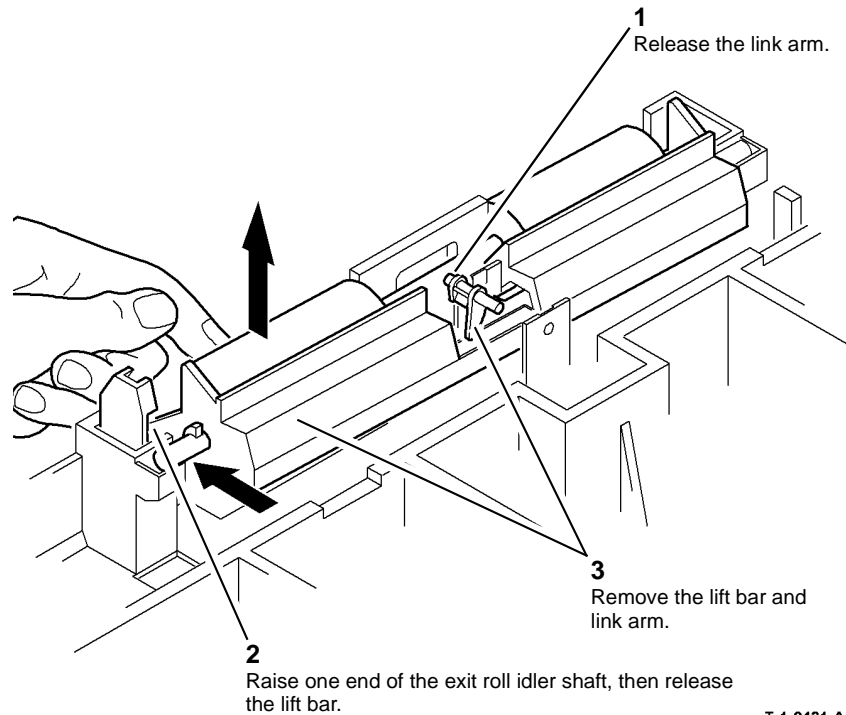

Figure 1 Preparation
3. Prepare to remove the exit roll idlers, Figure 1.